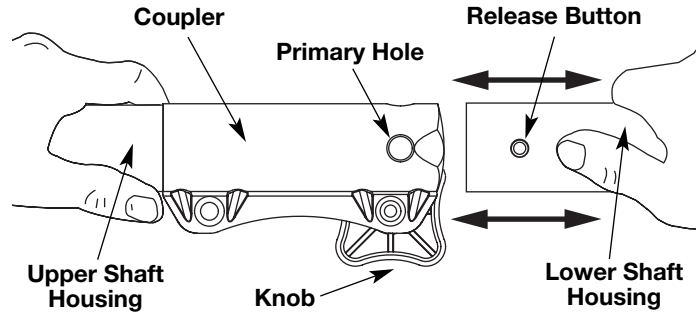

Fig. 2
3. While firmly holding the upper shaft housing, pull the lawn edger attachment out of the coupler (Fig. 2).
3. While firmly holding the add-on, push it straight into the coupler (Fig. 2).
CAUTION: Lock the release button in the primary hole (Fig. 2) and securely tighten the knob before operating this unit.